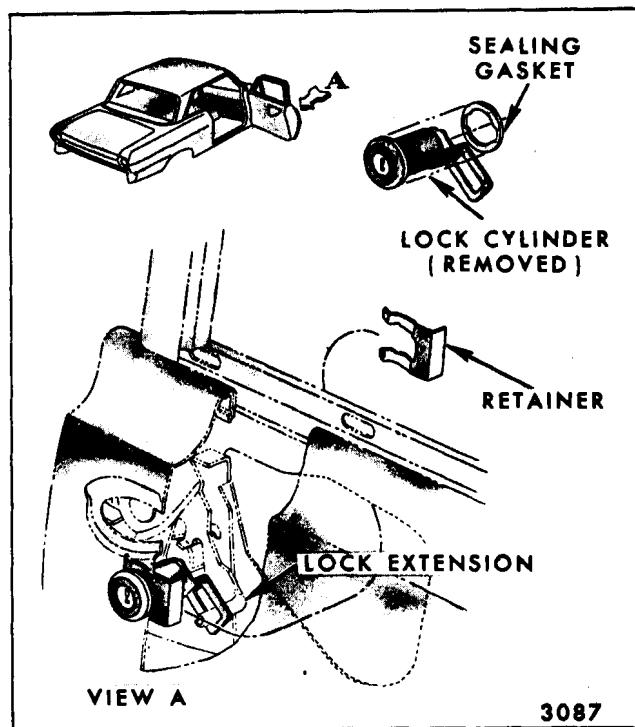

Fig. 6-55-Front Door Lock Cylinder Removal - All Styles
2. With a screwdriver or other comparable tool, slide lock cylinder retaining clip (on door outer panel) out of engagement and remove lock cylinder from door (Figure 6-55).